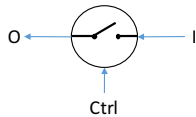

Figure 3: Switch Node
- We define the *switch node* in Figure 3 to have 2 inputs (**I**, **Ctrl**) and 1 output (**O**). The *Ctrl* input always enters perpendicularly to the switch node. If the *Ctrl* input has a *True* token (i.e., a token with a value of 1), the **O** wire propagates the value on the **I** wire. Else, the 2 input tokens (**I**, **Ctrl**) are consumed, and no token is generated at the output (**O**).